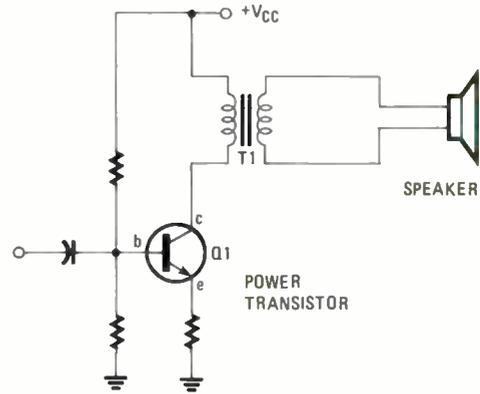
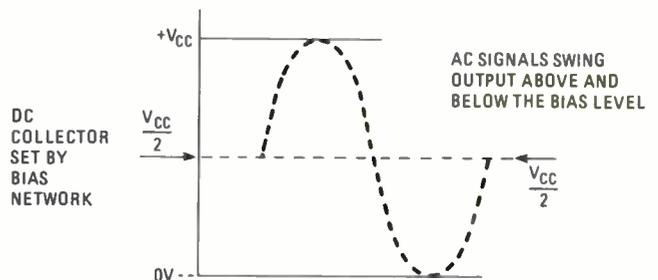

Fig. 19—A common-emitter audio power amplifier. Transformer T1 provides impedance matching to the speaker.
Fig. 20—The output voltage of an amplifier is limited by  $+V_{CC}$  and ground.
48. (coil) Common-emitter amplifiers provide power gain as well as voltage gain. Heavy-duty transistors capable of withstanding higher voltage and current are used as power amplifiers. Such a circuit is shown in Fig. 19. It is a configuration you are already familiar with. The primary of transformer T1 replaces the collector resistor. The transformer provides impedance matching that steps the high  $Z_o$  of the amplifier down to the low speaker impedance, usually 8 to 16 ohms. The amplifier provides the power to operate the speaker.
Impedance matching in Fig. 19 is provided by the \_\_\_\_\_.
50. (continuous, linearly) A class A amplifier operates properly as long as it is correctly biased and the amplitude of the input signal is not too great. The biasing network is designed to set the base current to a value that will cause the DC collector voltage to be about one half of the power supply voltage ( $V_{CC}$ ), a value that is approximately at the center of the linear range. With this condition, if an AC input signal is applied the collector output can vary up to  $+V_{CC}$  and down to as low as zero volts (ground) if no emitter resistor is used. (See Fig. 20.)  $+V_{CC}$  and zero are the maximum and minimum output voltages for the circuit shown in Fig. 19.